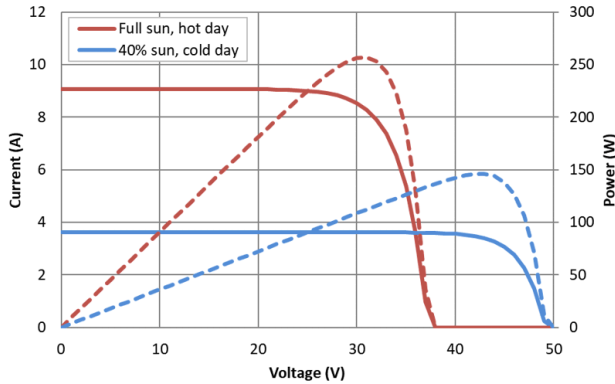

Figure 7. IV curve based on weather conditions.
To discuss this further, let’s talk about the current-voltage (IV) graph for solar panels in **Figure 7**. The y-axis
represents the IO_{UT} of a solar panel, while the x-axis represents the V_{OUT} of the solar panel. The objective of the IV graph is to find the MPP that the solar panel can produce based on weather conditions. **Figure 7** demonstrates how the IV graph can change depending on weather conditions.